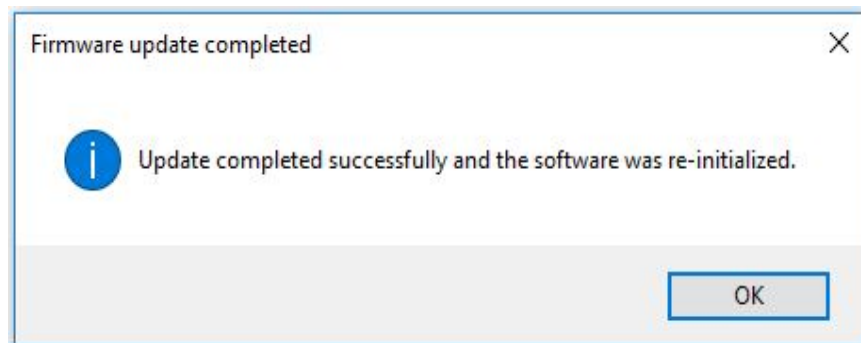

Figure 10: Switch Image successful message page
- Press “OK” and then followed by “Switch Image” button to switch to new firmware, if the switch is successful another message box in figure 10 will pop up and new firmware number will be showed in Current FW Version.